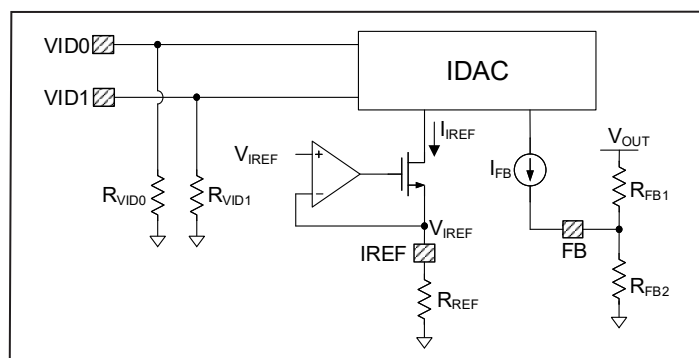

Figure 29. MxL76125 VID Functional Diagram
**Figure 29** shows the VID functional diagram. VID implementation includes an IDAC. The reference current  $I_{REF}$  is set by an accurate internal reference ( $V_{IREF}$ ) and an external resistor  $R_{REF}$ . These are related as follows: